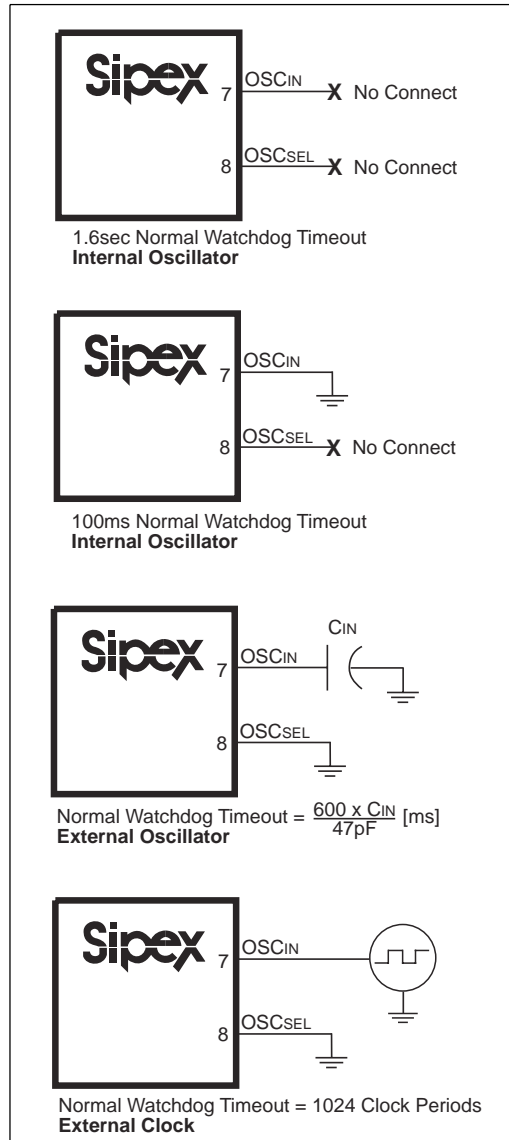

Figure 21. Selecting Timeout Periods
**Pin 7 —  $OSC_{IN}$  — External Oscillator Input.** When  $OSC_{SEL}$  is unconnected or driven HIGH, a 10  $\mu\text{A}$  pull-up connects from  $V_{OUT}$  to this input pin, the internal oscillator sets the reset and watchdog timeout periods, and this input pin selects between fast and slow watchdog timeout periods. When  $OSC_{SEL}$  is driven LOW, the reset and watchdog timeout periods may be set either by a capacitor from this input pin to ground or by an external clock at this pin (refer to *Figure 21*).
The  $\text{OSC}_{\text{SEL}}$  and  $\text{OSC}_{\text{IN}}$  inputs control the watchdog reset timeout periods. Floating  $\text{OSC}_{\text{SEL}}$  and  $\text{OSC}_{\text{IN}}$  or tying them both to  $\text{V}_{\text{OUT}}$  selects the nominal 1.6s watchdog timeout period and 200ms reset timeout period. Connecting  $\text{OSC}_{\text{IN}}$  to ground and floating or connecting  $\text{OSC}_{\text{SEL}}$  to  $\text{V}_{\text{OUT}}$  selects a 100ms normal watchdog timeout period and a 1.6s timeout period immediately after reset. The reset timeout period remains 200ms. Refer to *Figure 20*. Select alternative timeout periods by connecting  $\text{OSC}_{\text{SEL}}$  to ground and connecting a capacitor between  $\text{OSC}_{\text{IN}}$  and ground, or by externally driving  $\text{OSC}_{\text{IN}}$ . A synopsis of this control can be found in *Figure 21* and *Table 1*.